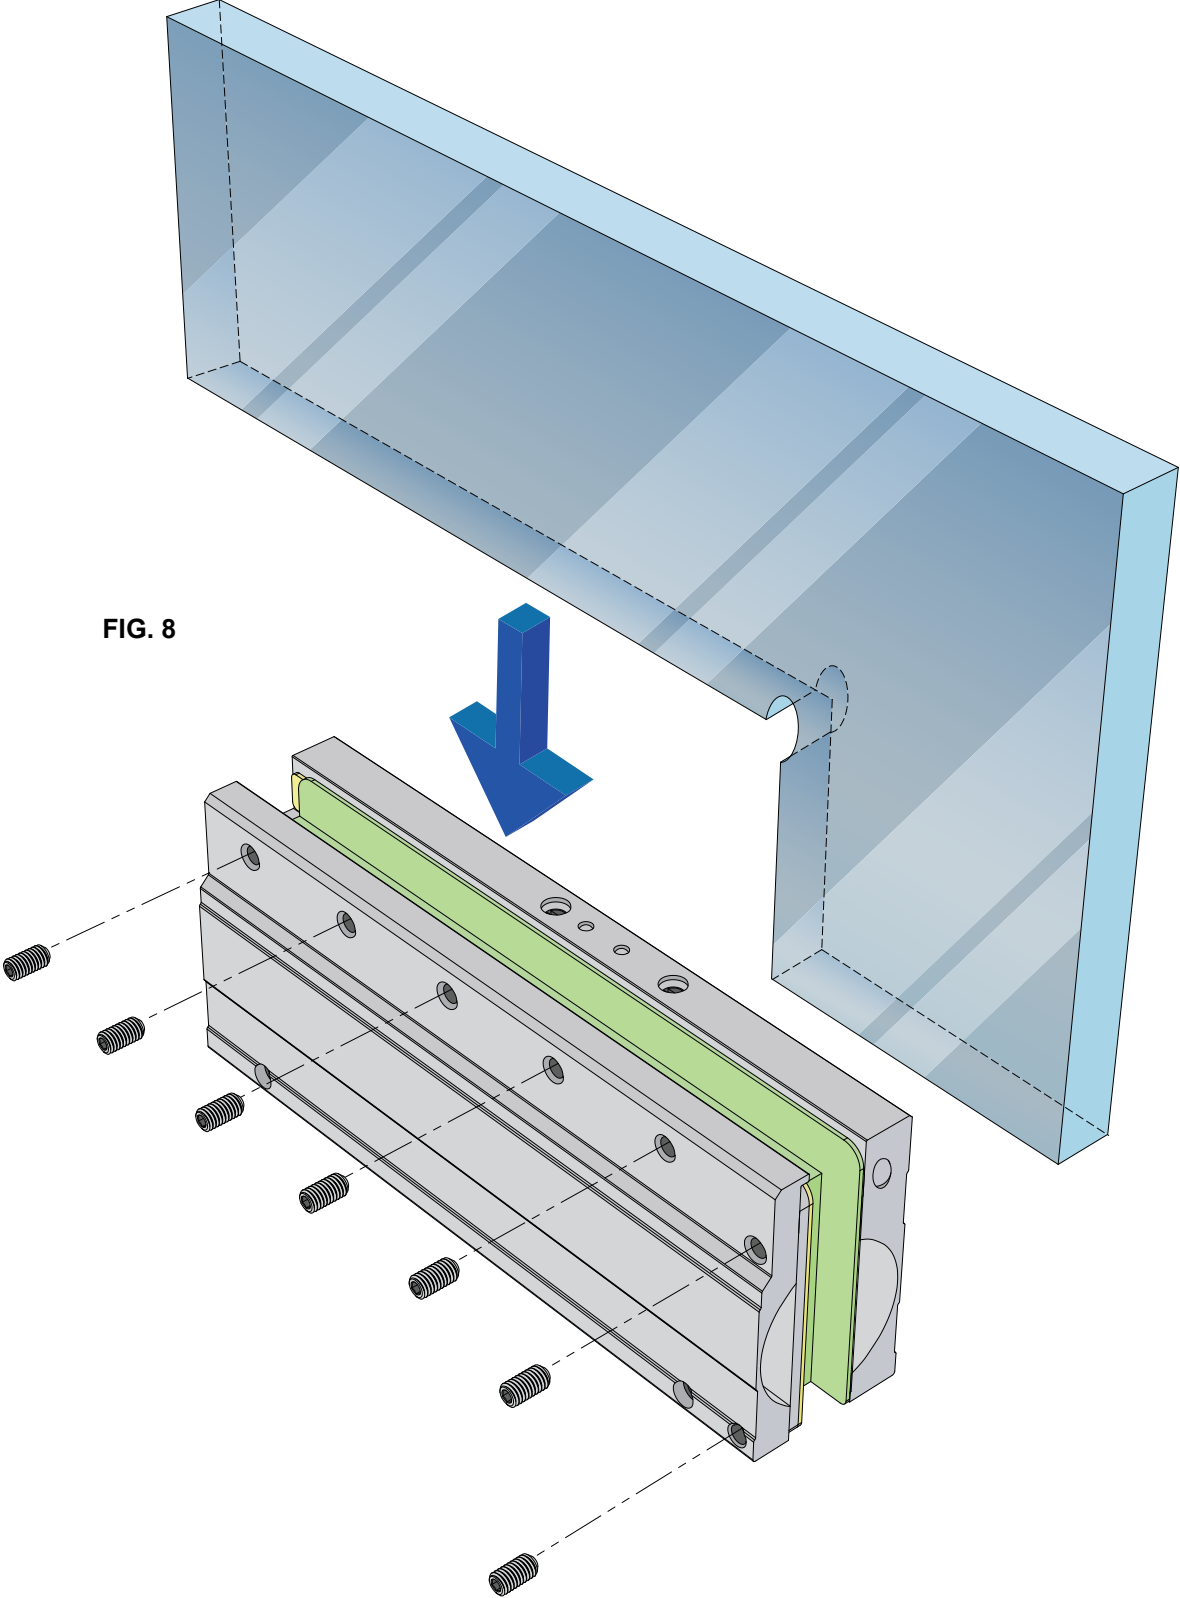

FIG. 8
6. Insert the Patch Hinge into the glass cut-out and secure it with the seven provided set screws. (Fig. 8)